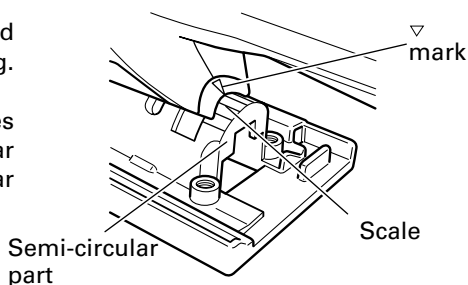

Fig. 16
(2) Align the scale (from 0 degrees to 45 degrees by 15-degree increments) of the semi-circular part of the base with the [▽] mark on the gear cover. (Fig. 16)